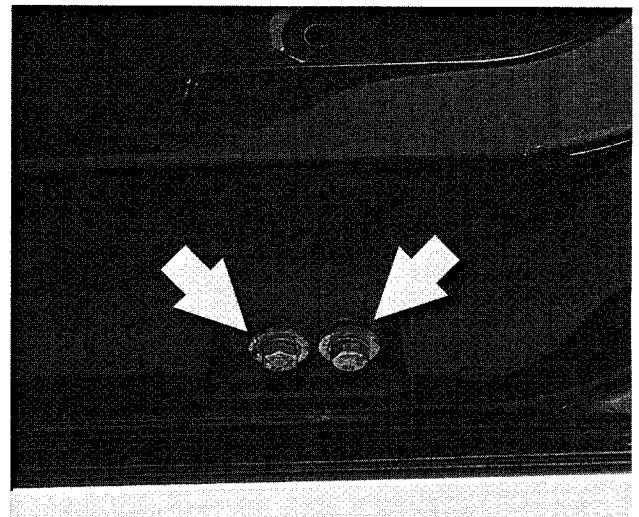

Fig. 20. Rear guide rail lower mounting bolts in bottom of door (**arrows**).
- If adjustment is necessary, move bottom of window guide in or out to correct. See Fig. 20.